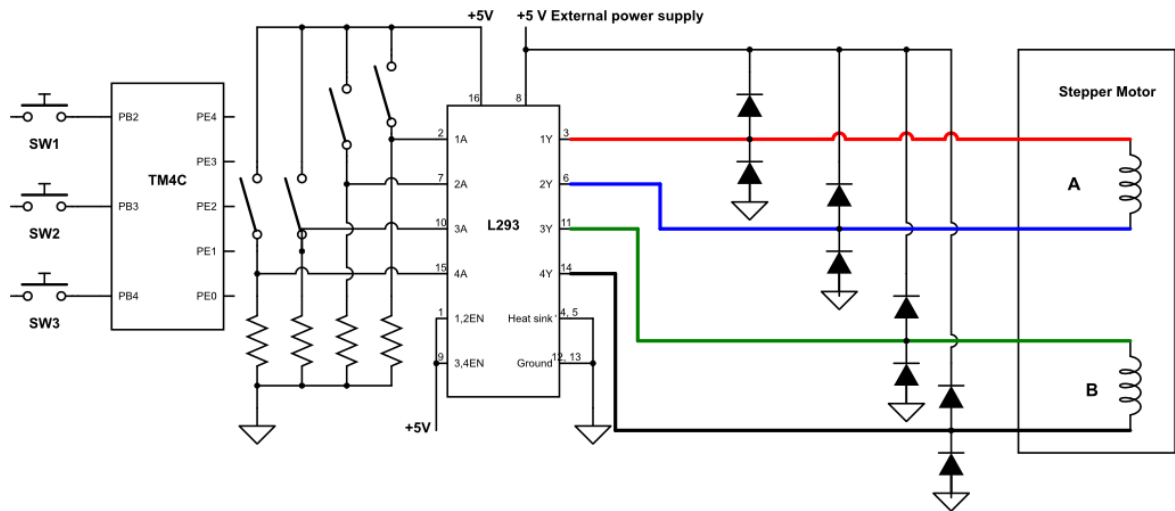

Figure 2
- Start by building the digital interface separate from the microcontroller, as shown in figure 2. Use switches as inputs for the stepper interface.
- The switches in figure 2 will be eventually replaced by the microcontroller outputs. Once you are sure the hardware is operating properly, run a simple software function that rotates the motor at a slow constant velocity to verify hardware/software interface. Make sure to debug the Control and Driver modules separately.